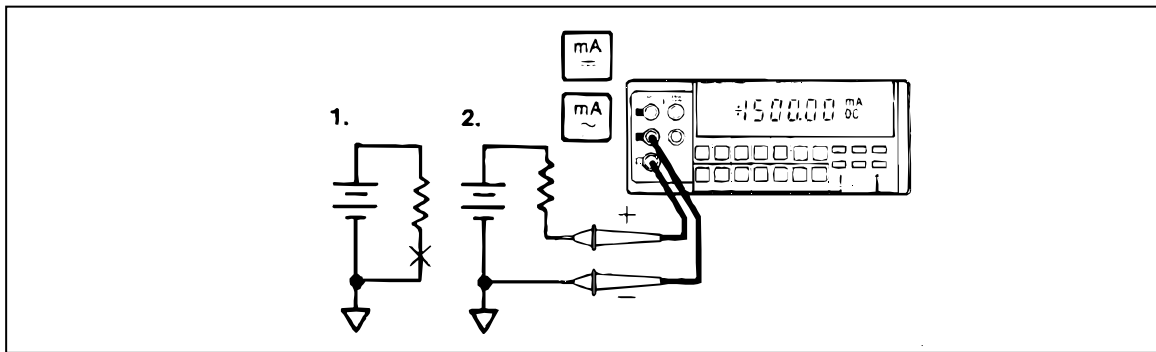

Figure 2-10. Measuring Current
1. Turn off power in the circuit to be measured (Figure 2-10).